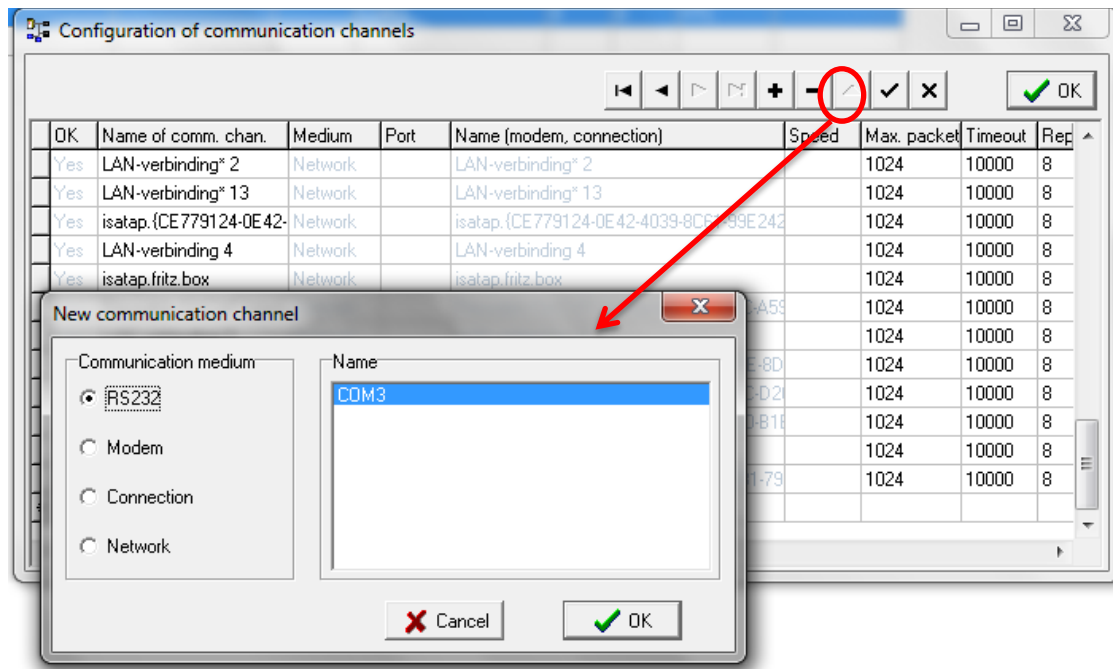

Fig. 21 Adding a new communication channel
- check compressibility algorithm and gas composition setting (see Fig. 21)
- In case of adding a new device into the GASCcomm service SW it is possible to choose an already defined communication channel or to define a new communication channel with the button „+“ see Fig. 21.